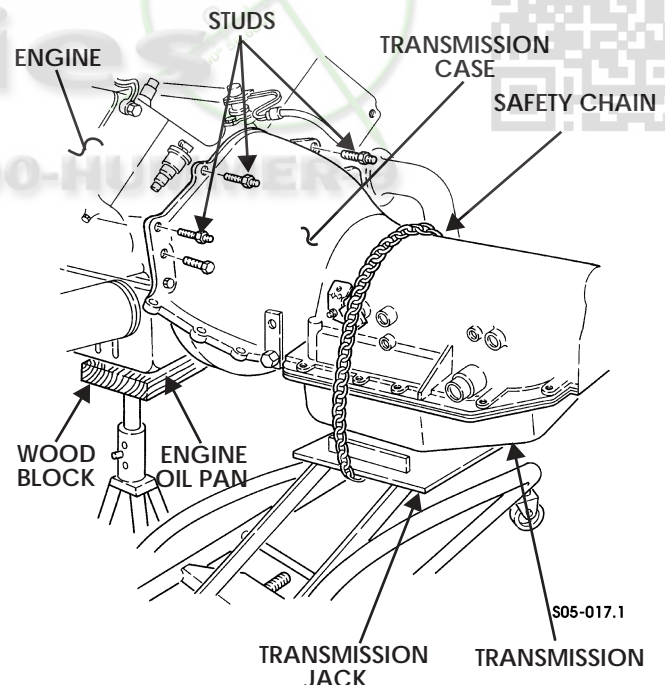

Figure 5-58: Transmission Supported on Jack
19. Support transmission and transfer case with transmission jack and secure with safety chain (Figure 5-58).
24. Support engine under oil pan with wood block and stand, and lower transmission slightly (Figure 5-58).